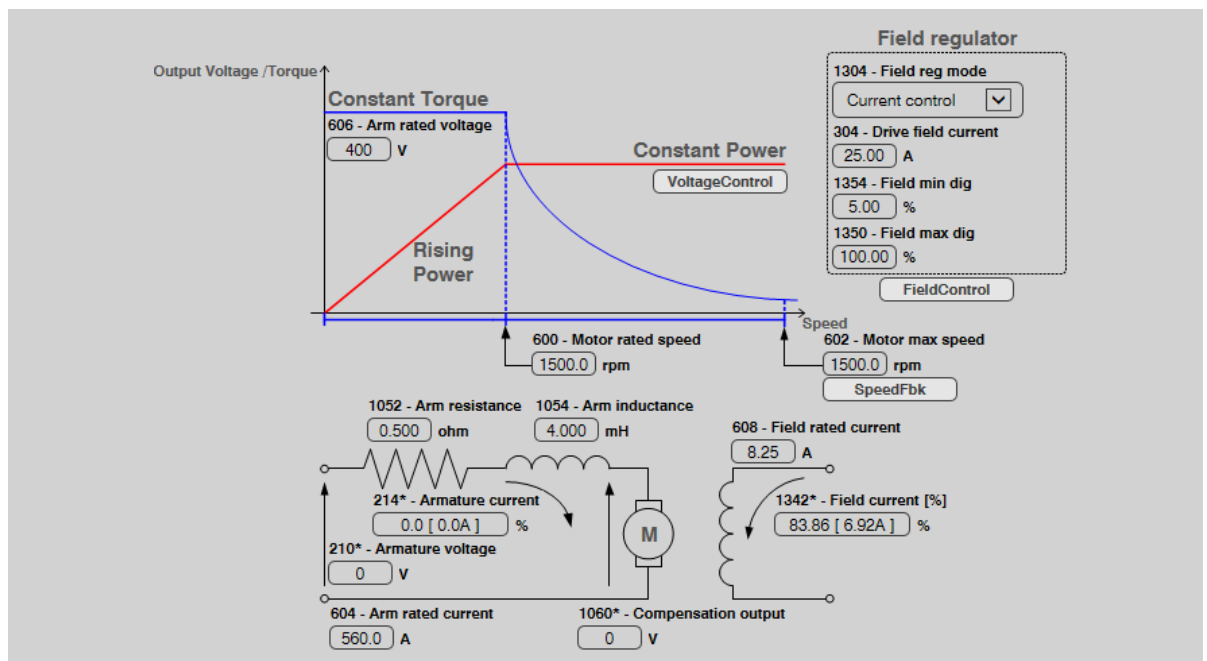

Figure 7-17: Motor Data diagram
2000 Ramp enable	Enables/disables ramp control of the speed reference. When set to ON , speed reference 1 IPA 1854- Speed ref 1 mon is disabled by the speed reference chain and is ineffective, while when set to OFF , the ramp output IPA 2048- Ramp output in favour of speed reference 1 IPA 1854 - Speed ref 1 mon (see figure 7-17), however, the ramp generator continues to operate and can be used in stand-alone configuration regardless of the Enable , Start and/or Fast stop commands.